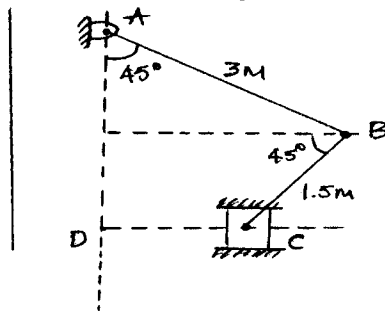

Fig.Q3(b)
- b. In the mechanism shown in Fig.Q3(b), the slider C is moving to the right with a velocity of 1 m/s and an acceleration of 2.5 m/s². The dimensions of various links are AB = 3 m inclined at 45° with the vertical and BC = 1.5 m inclined at 45° with the horizontal. Determine: i) The magnitude of vertical and horizontal component of acceleration of the point B and (ii) The angular acceleration of the links AB and BC. (10 Marks)